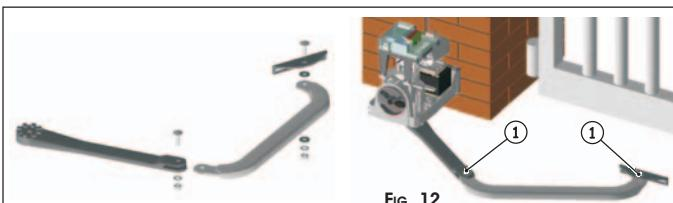

Fig. 12
- ⑦ Assemble the rest of the arm as illustrated in Fig.12.
- !** For correct operation, tighten the two securing screws (Fig.12 ref.①) and then loosen them by about 1/2 turn to enable rotation without any friction on the arms.